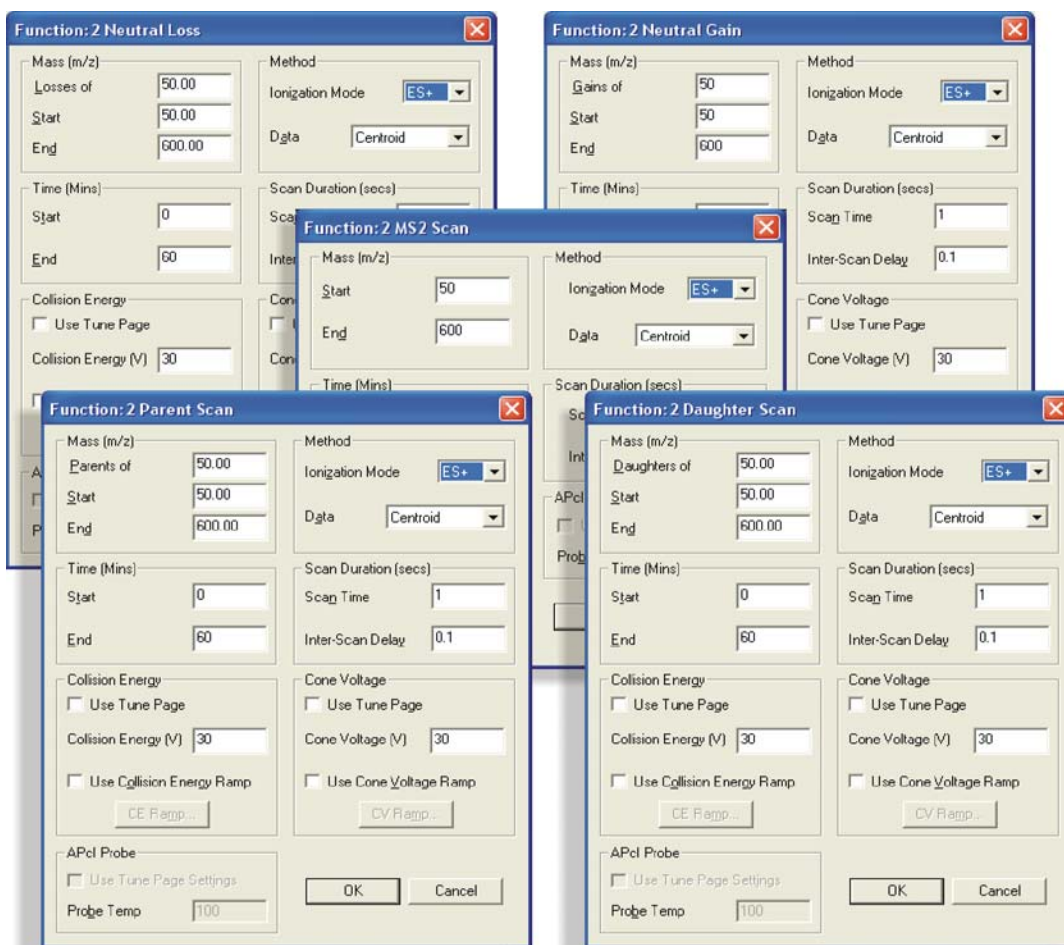

Figure 5-13 MS/MS Scanning Function Editors
1. On the MS Method Editor (see Figure 5-6), click the appropriate toolbar function button to open the appropriate Function Editor. The MS/MS Scanning Function Editors are shown in Figure 5-13.